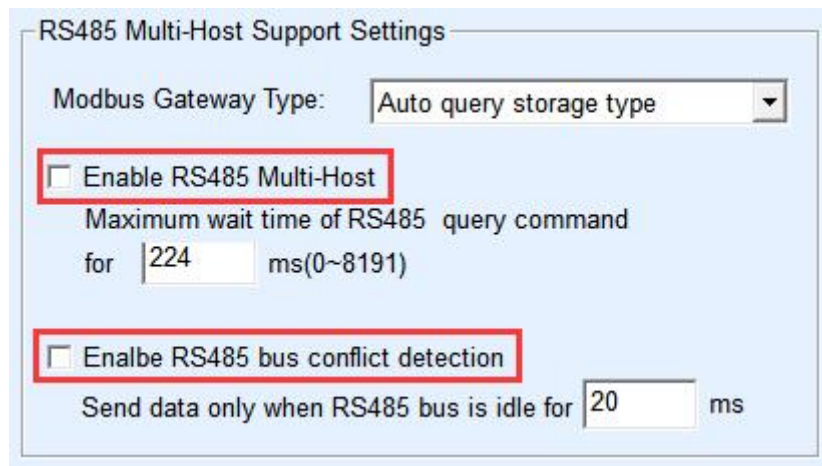

Figure 30: Disabling Storage-Type Functionality
2. Uncheck the boxes labeled as shown in Figure 30.